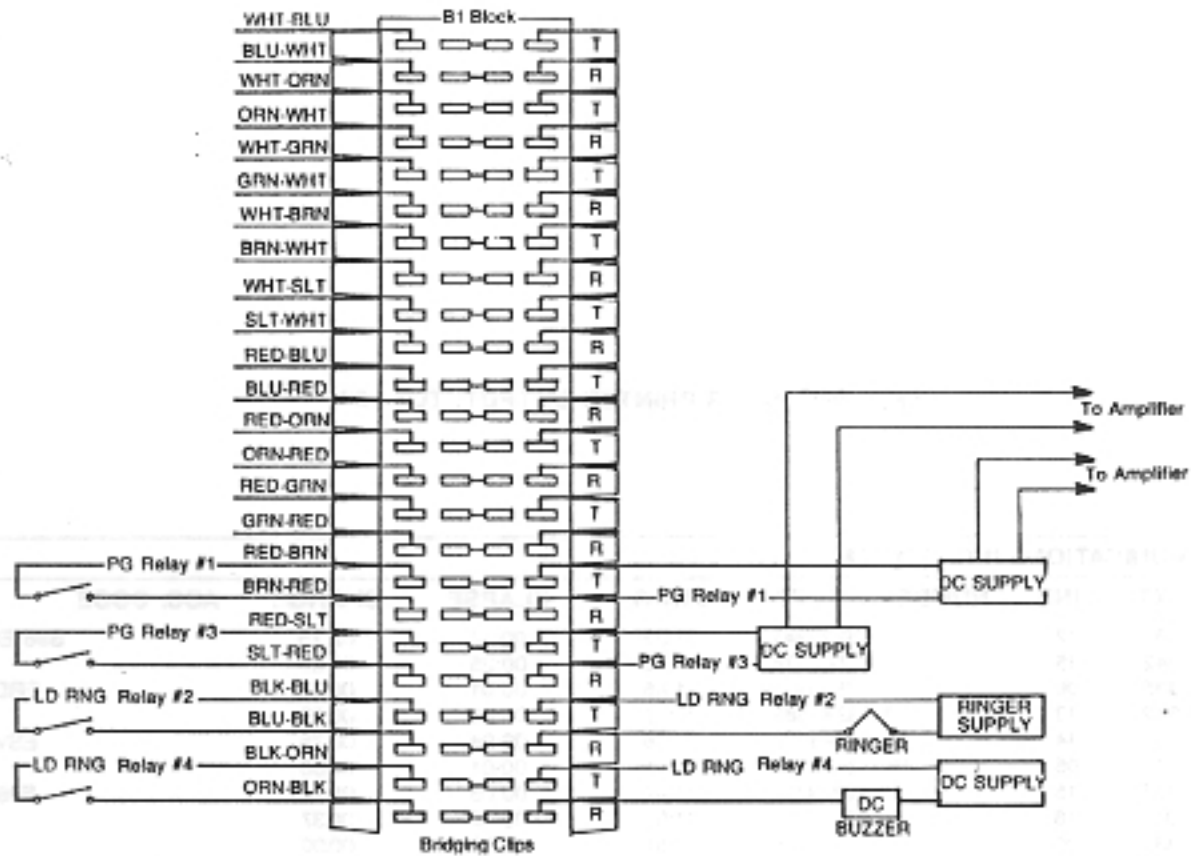

Figure 9-2 TYPICAL USE OF OPTIONAL EQUIPMENT, TCX-128
- 3.11 To install the loud ringing equipment ( Figure 9-2 ):
3.13 The lower left portion of the KSU backplane ( Figure 9-2 ) is equipped with RCA-type phono jacks: J23 and J24, and strapping pins: E1, E2, and E3. J24 is for Background Music. J23 is for Music-on-Hold. The strapping pins determine whether one or two music sources are installed.